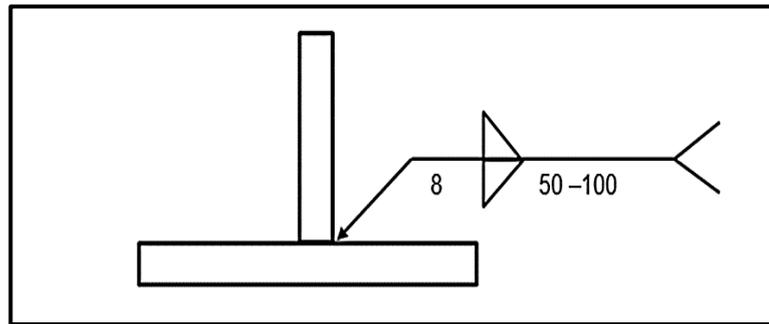

FIGURE 5.5
5.5 FIGURE 5.5 below shows a weld symbol. Fully describe the weld symbol and give the meaning of EACH of the dimensions in the diagram.